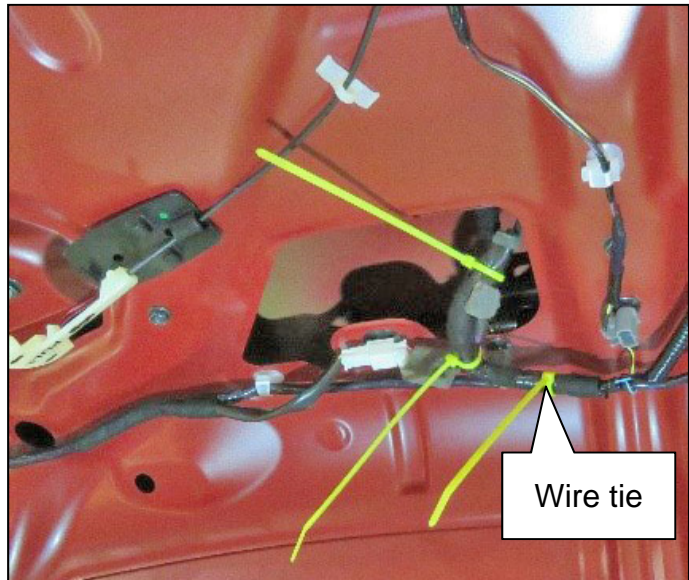

Figure 17
17. Place one (1) wire tie securely around the wiring harnesses where they were taped together in step 14 on page 10, as shown in Figure 17.